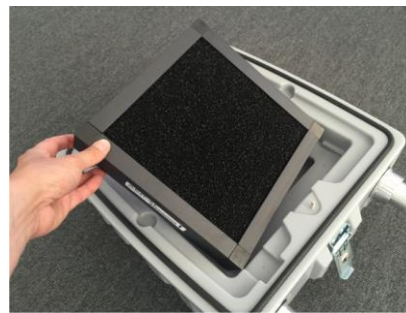

Fig. 4: Changing the active carbon filter
- Remove and exchange active carbon filter (see fig. 4).